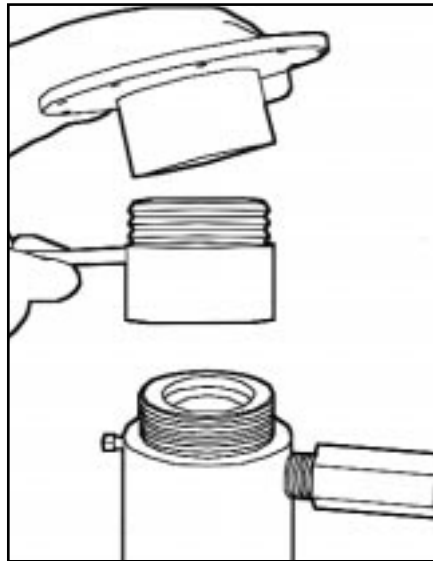

Figure 56
4. Unscrew the connector section for the oil chamber and fluid cylinder on the pump body assembly. (Fig.56)